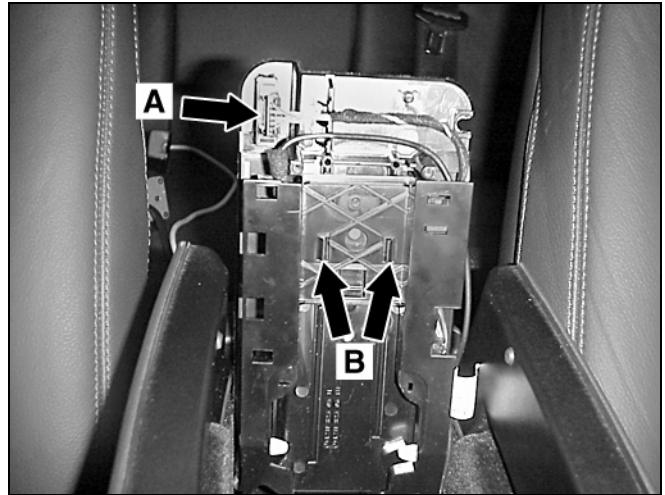

Figure 10
6. Raise the front of the false floor/base plate assembly so it stands vertically (Figure 10).
7. Disconnect the Tele Aid power cord connector (A, Figure 10).
8. Separate and remove the false floor from the base plate by pulling up on the front of the false floor, while simultaneously releasing the two clips (B, Figure 10).